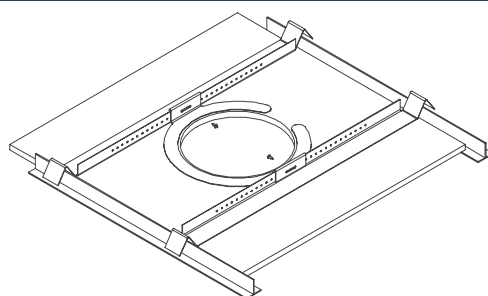

Figure 10: Screw C-bracket to tile support rails
1. The included C-bracket and tile support rails should be used in all suspended ceiling installations. The C-bracket and tile support rails can also be used in installations when the speakers are mounted into material that will not support their weight. Insert the two tile support rails and C-bracket through the hole you have cut, placing them as shown. Using the two screws that are supplied, screw the C-bracket to the tile support rails as shown (see Figure 10 and 11). After the C-bracket and tile support rails are installed follow Step 2 through 8 in the previous installation instructions.